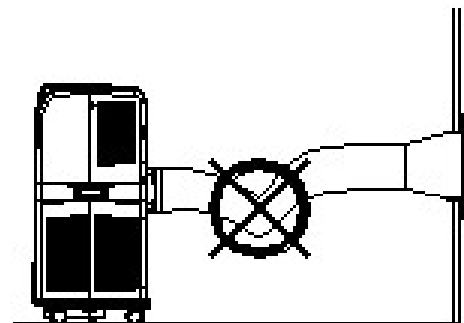

Fig. 5
- Figure 5 shows the incorrect mounting of the flexible exhaust hose